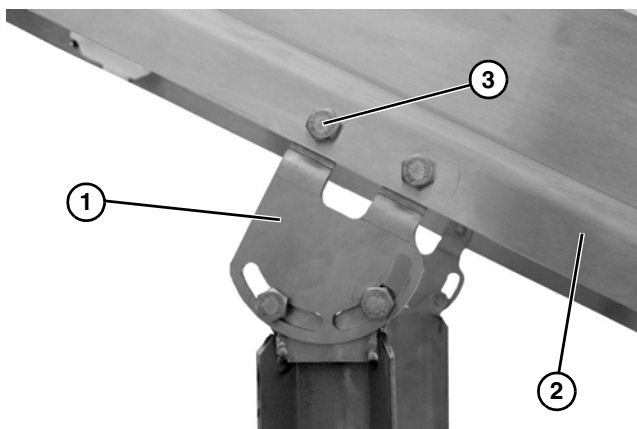

Figure 4
3. Attach the bracket (Figure 4, item 1) to the conveyor (Figure 4, item 2) and tighten the four bolts (Figure 4, item 3).